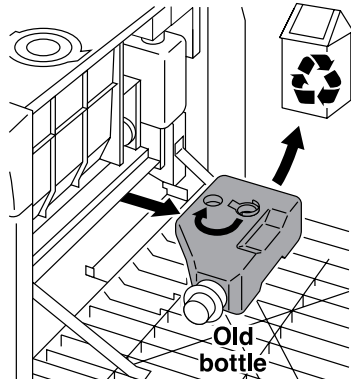

Figure 4-16 Removing Developer Collector Bottle
2. Remove the developer collector bottle, as shown in Figure 4-16.
3. Move the bottle cap from the storage position onto the collection hole to close the bottle, as shown in Figure 4-16.